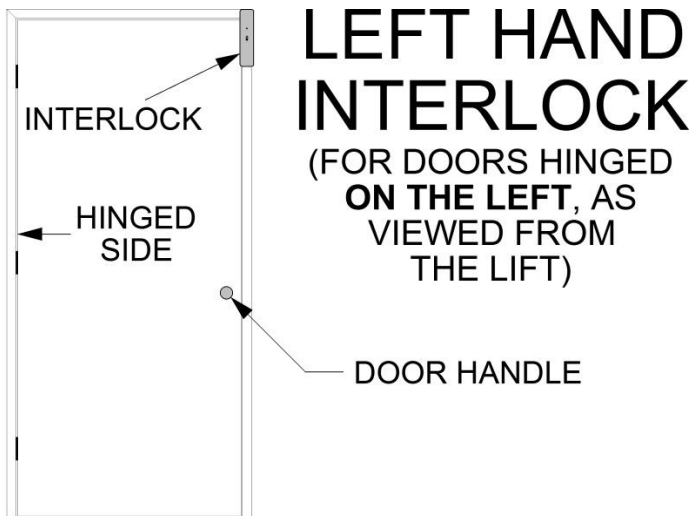

FIG. 12.1
- 👤 Left Hand or Right Hand Interlock must be specified at the time you place your order for the optional Interlock. Determine whether the door handle is on the left or right when looking at the door from the VPL platform before ordering. FIG. 12.1 & 12.2 illustrate the Left Hand and Right Hand and Interlocks.